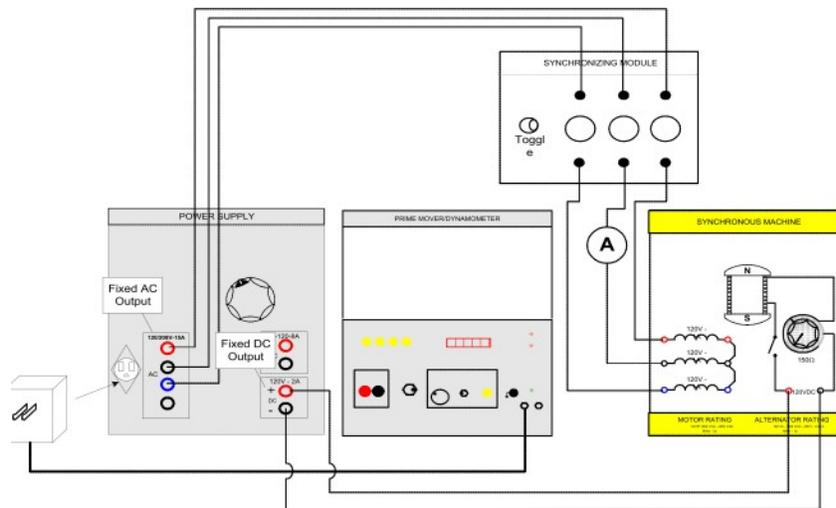

FIGURE 9.4
Step 6: Using your EMS Electrodynamometer and Synchronizing Switch Modules, connect the circuit shown in Figure 9.4. Couple the motor to the electro-dynamometer with the timing belt.